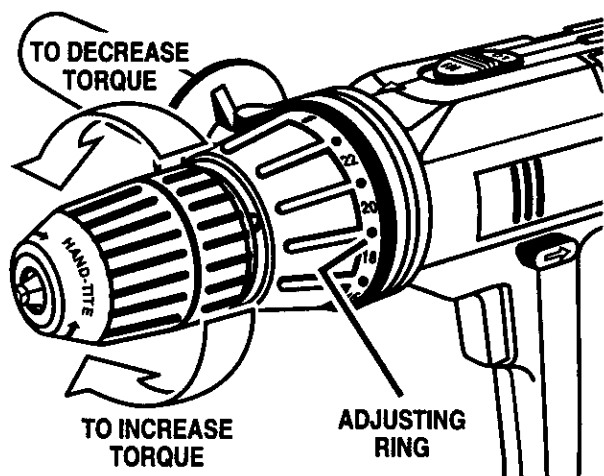

Fig. 11
- Identify the twenty four torque indicator settings located on the front of your drill. *See Figure 11.*